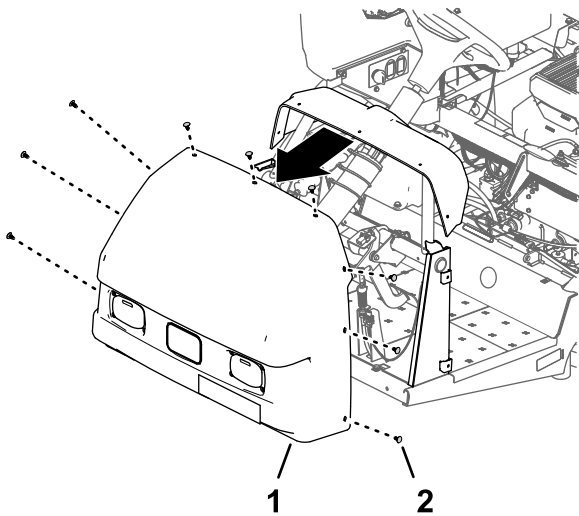

Figure 20
2. Remove the 9 push-in fasteners that secure the hood to the dash and frame of the machine (Figure 20).
3. Remove the hood from the machine (Figure 20).